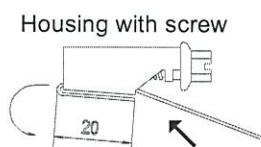

Figure 9: Strap housing
2. Insert the strap into the housing from the screw head side, and bend a projection of 20 mm over the ridge (**Figure 9**).